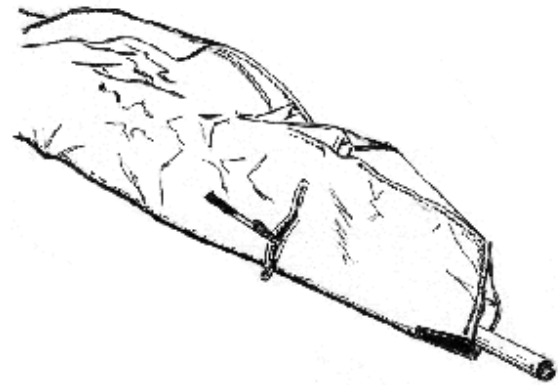

Fig. 3
2.1.5. While installing the leading edge tubes into the sail, place the washout struts facing forward toward the nose of the wing and along the leading edge tubes (Fig. 3). Put washout tips outside of the sail through the access zippers. Make sure that the leading edge tube #3 is properly installed.